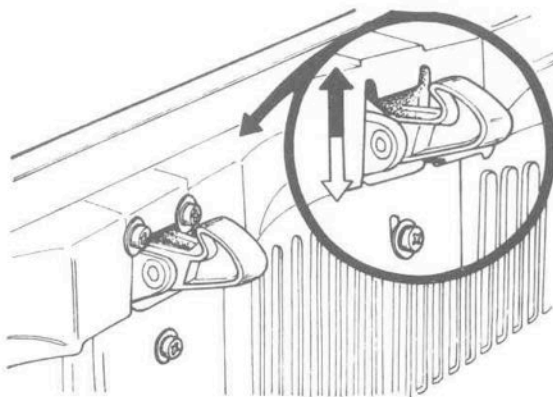

FIG 12:12 The latch for the lid of the engine compartment. By slackening the three cross-head screws the latch may be adjusted as shown by the inset
**FIG 12:11** The latch for the lid of the luggage compartment is adjustable in the direction of the arrows because of enlarged holes 1. The fixing bolts are shown at 2
The latch is also adjustable (see arrows in FIG 12:11). Slacken bolts 2 and move the latch as required. Lubricate the moving parts for easy action.
To remove the lid, unscrew the nut from one hinge pin. Release the check cable from the lid by prising out the plastic retainer with a screwdriver. The latch is adjustable by means of slotted holes for the fixings (see FIG 12:12).
FIG 12:13 Removing the centre panel from the fascia. The windscreen washer hoses are at 1 and the light switch connector is at 2. The arrows in the inset point to the attachment screws